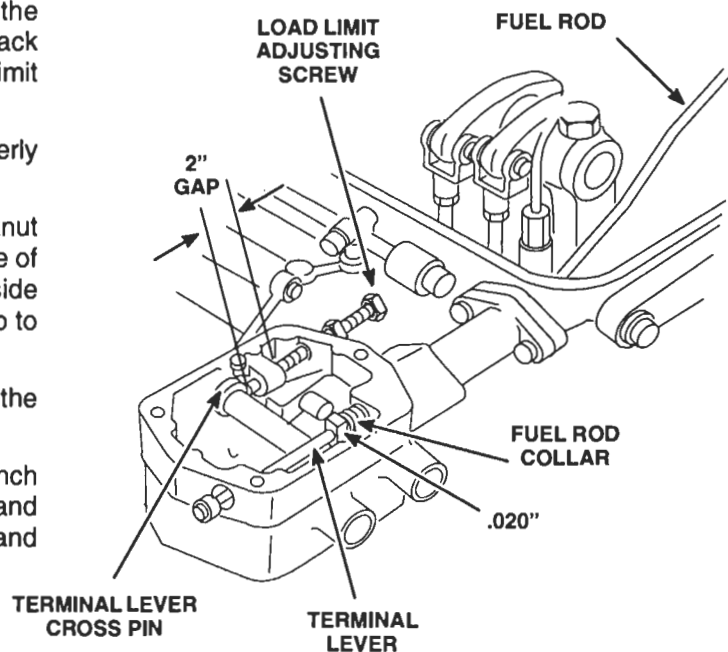

Figure 3. Adjusting Load Limit
2. Place the fuel rod and terminal lever in the full-fuel position (Figure 3.)